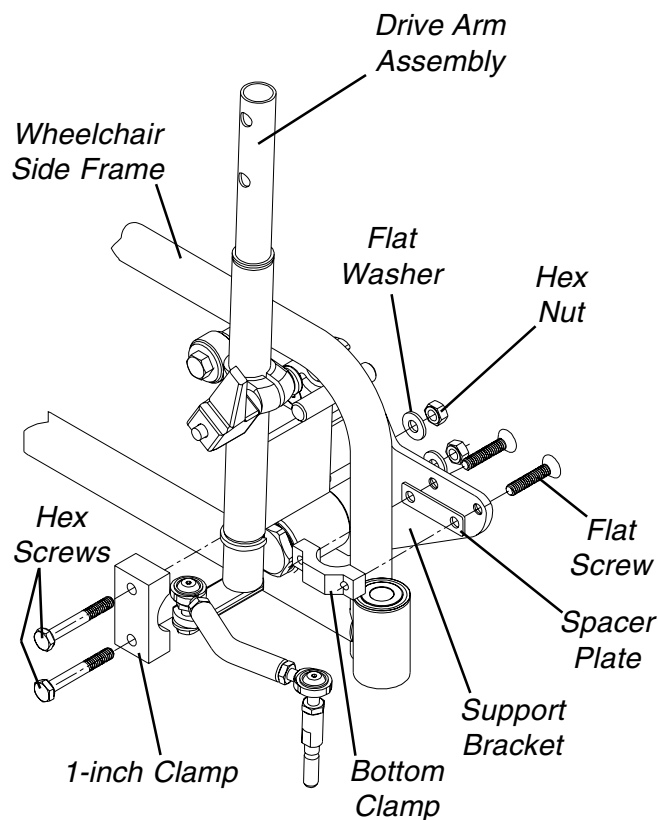

FIGURE 1 - MOUNTING/REMOVING SUPPORT BRACKET TO/FROM WHEELCHAIR
MOUNTING/REMOVING SUPPORT BRACKET TO/FROM WHEELCHAIR (FIGURE 1)
1. Secure the bottom clamp and the spacer plate to the wheelchair and the support bracket with the two (2) flat screws as shown in FIGURE 1. Torque to 7 ft./lb. (84 in./lb.).
2. Secure the 1 inch clamp to the wheelchair and the support bracket with the two (2) hex screws, flat washers and hex nuts. Torque to 7 ft./lb. (84 in./lb.).